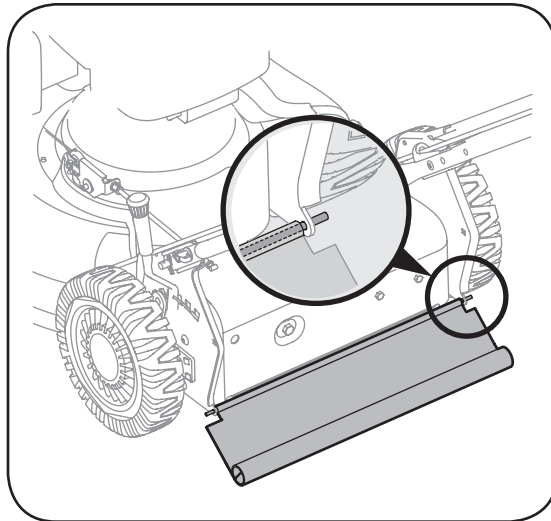

Figure 5-2: Cut wire to remove rear flap.
1. Cut off the flat end of the wire rod which secures it to the deck. See Figure 5-2.